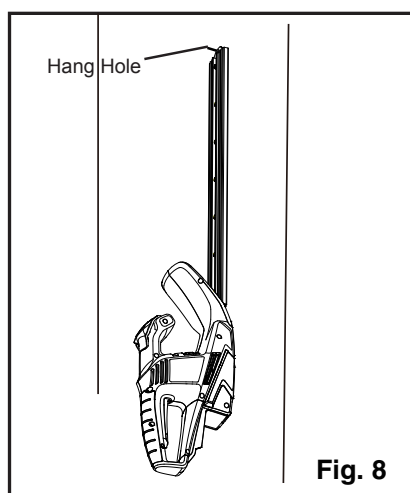

Fig. 8
- To store hedge trimmer, remove battery pack from unit and use the convenient protective tip to hang your hedge trimmer out of the way until next use (Fig. 8).